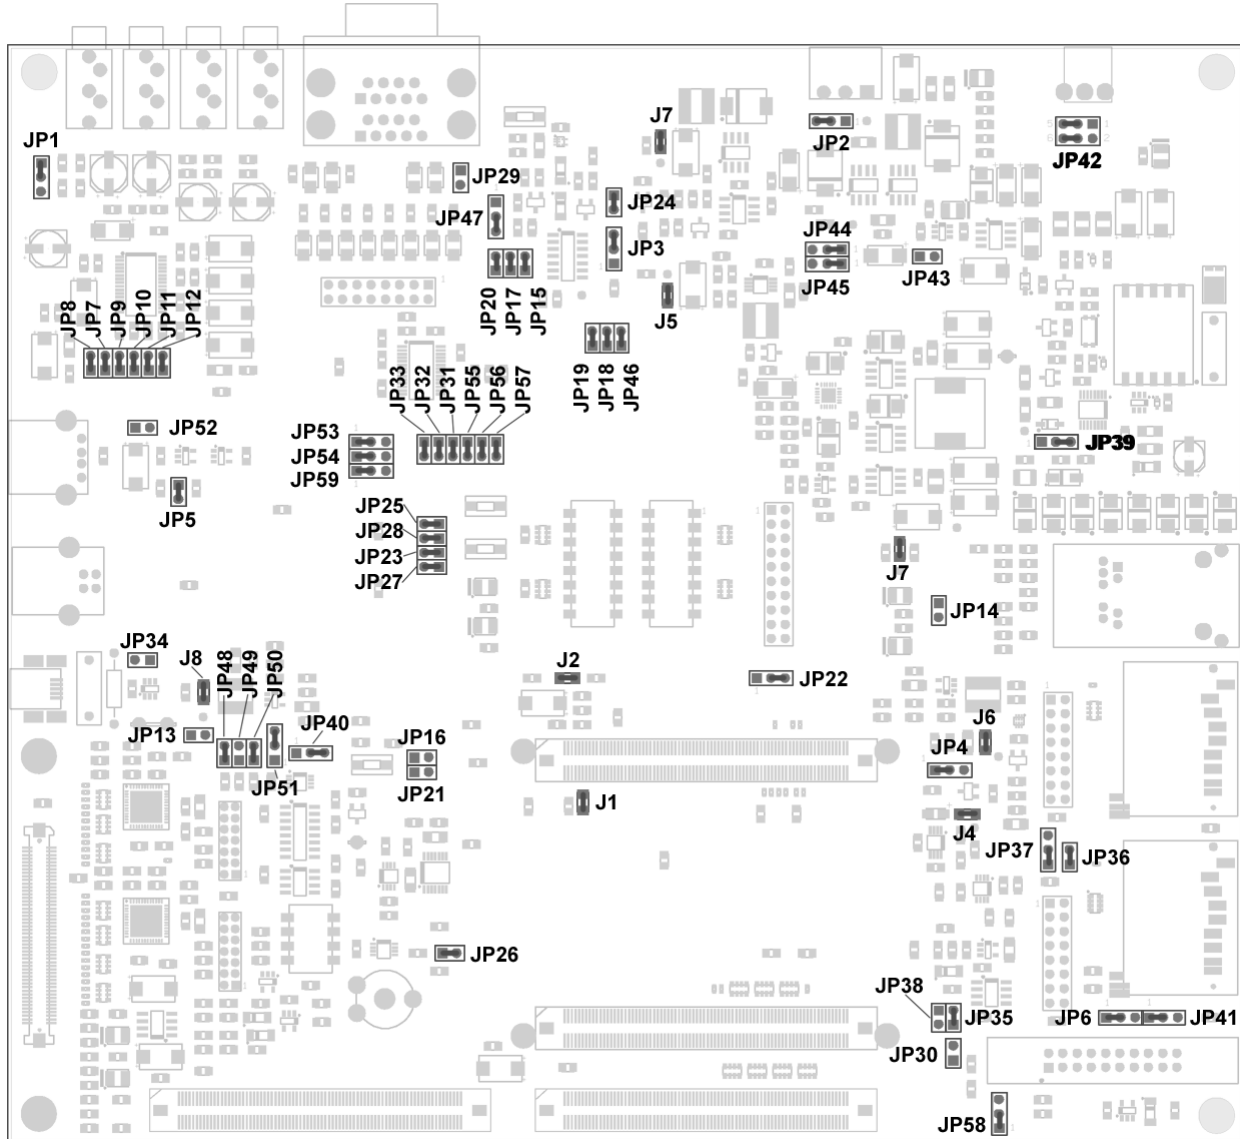

Fig. 19-1. Jumper Locations and Default Settings
The phyCORE-LPC3250 Carrier Board comes pre-configured with 51 removable jumpers (JP). The jumpers allow the user flexibility of rerouting a limited amount of signals for development constraint purposes. Table 19-1 below lists the 51 removable jumpers, their default positions, and their functions in each position. Figure 19-2 depicts the jumper pad numbering scheme for reference when altering jumper settings on the development board. Note that pin 1 is always marked by a square footprint in the jumper location diagrams that follow. Figure 19-1 provides a detailed view of the phyCORE-LPC3250 Carrier Board jumpers and their default settings.